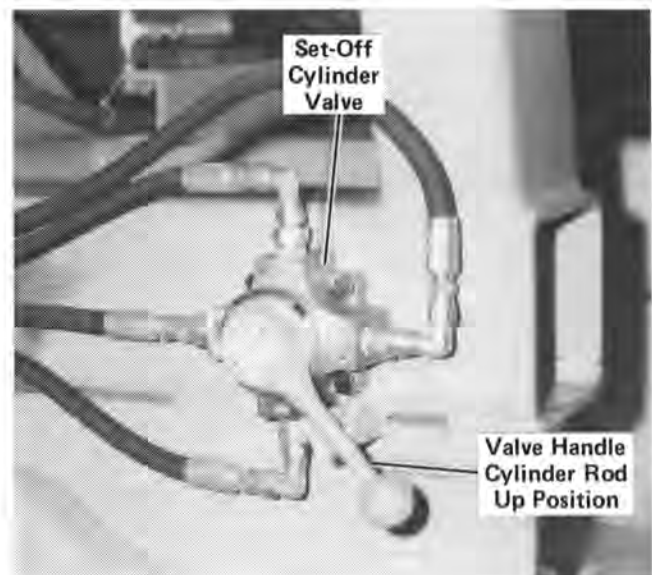

Figure 4
SET OFF CYLINDER VALVE. The valve mounted near the right hand spiking gun area on the main frame is the SET OFF CYLINDER VALVE. See Figure 4. To lower the cylinder ram and raise the machine move the lever to the upward position. To
2. Shift the set off cylinder valve handle to the upper detent position. See Figure 4. Pump the hand pump until the machine is raised to the desired distance. The machine can be lowered by moving the hand pump control lever to the upward position.
2. Shift the set off cylinder valve handle to the lower detent position. See Figure 4. Pump the hand pump until the cylinder rod retracts to the full up position. A pilot operated check valve will prevent the cylinder rod from drifting downward.